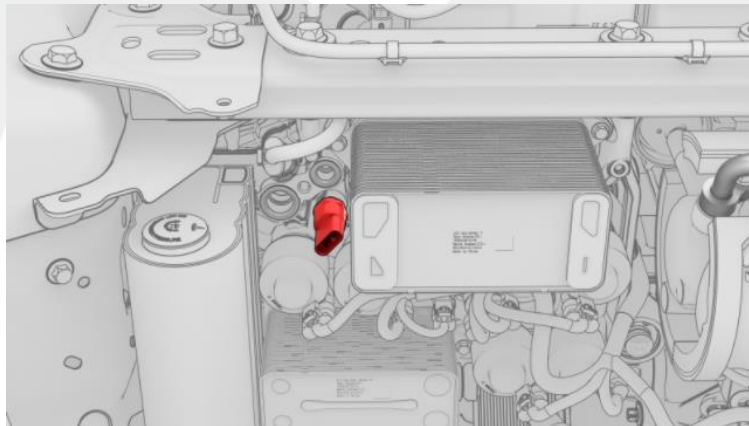

Figure 7
10. Use the HVAC socket kit to remove the high pressure P/T sensor from the Supermanifold (Figure 7).
16. Install the new high pressure P/T sensor (black connector) into the Supermanifold (Figure 7):